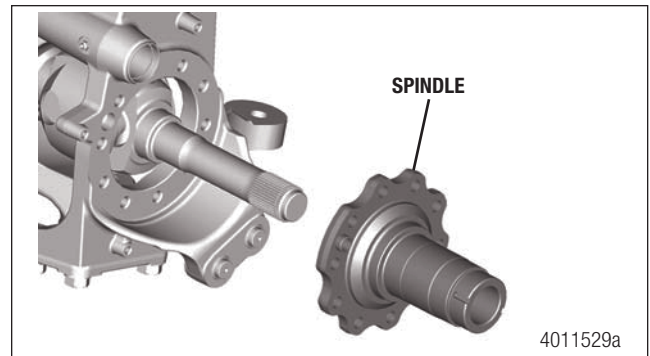
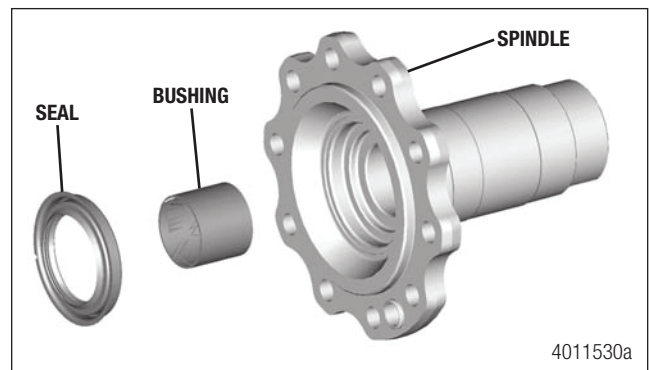

Figure 5.25
Figure 5.26
6. Pull the spindle straight from the knuckle and axle shaft. The grease seal and bushing will remain inside the spindle. Remove these parts with the appropriate tool and discard them. Figure 5.25 and Figure 5.26.